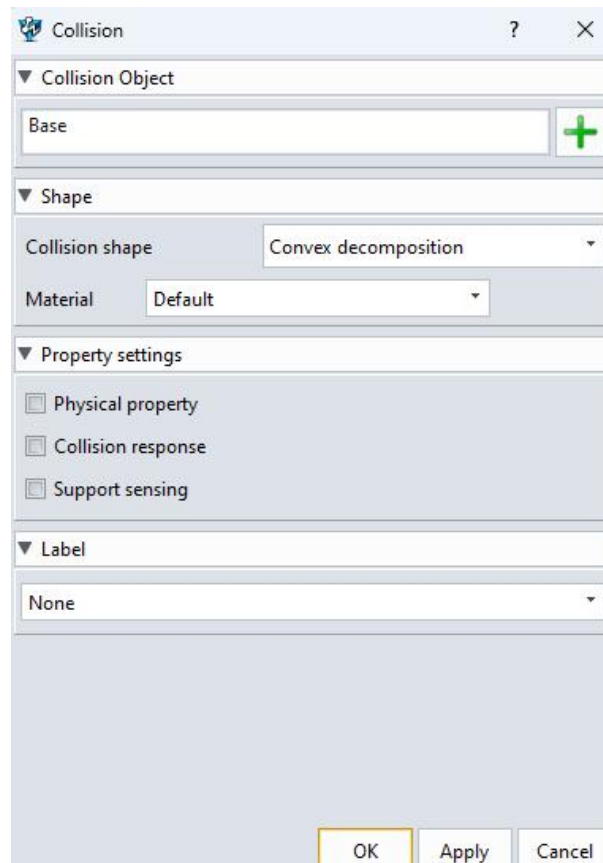

Figure 8-14: Collision Parameters
- Property settings to "unchecked", and material to "default". (Figure 8-14)